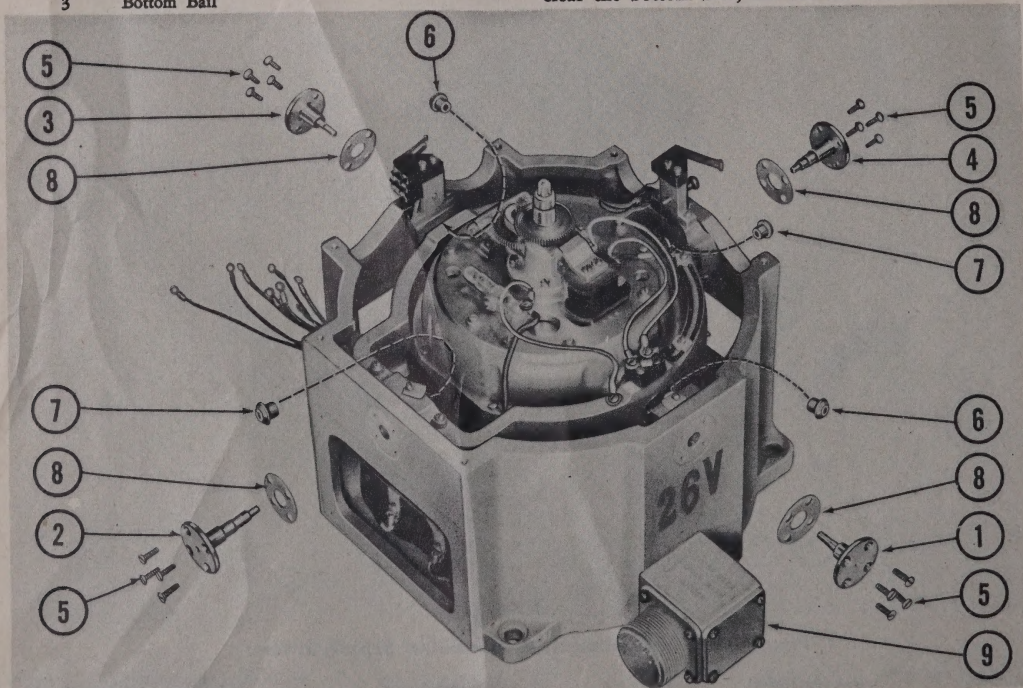
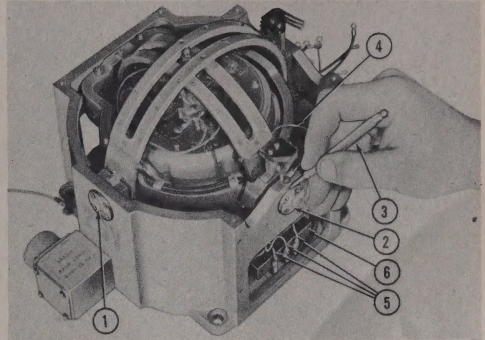

Figure 166 — Housing Gudgeon Pins, Exploded View
Figure 167 — Scribing Gudgeon Pins for Identification
(a) (See figure 167.) Scribe top of each gudgeon pin to mark the top and also the position (Nos. 1, 2, 3, and 4, Figure 166).
(b) (See figure 166.) Using a pair of tweezers, remove the bottom bail bushings (7) from the gudgeon pins (Nos. 2 and 4).
(c) (See figure 167.) Disconnect cardan-to-housing ground lead (4) from the housing.
(e) (See figure 166.) Remove the four flathead screws (5) from gudgeon pin No. 2 (2).
(i) (See figure 166.) Using a pair of tweezers, remove top bail bushings (6) from gudgeon pins Nos. 1 and 3; place in marked sections of tray.